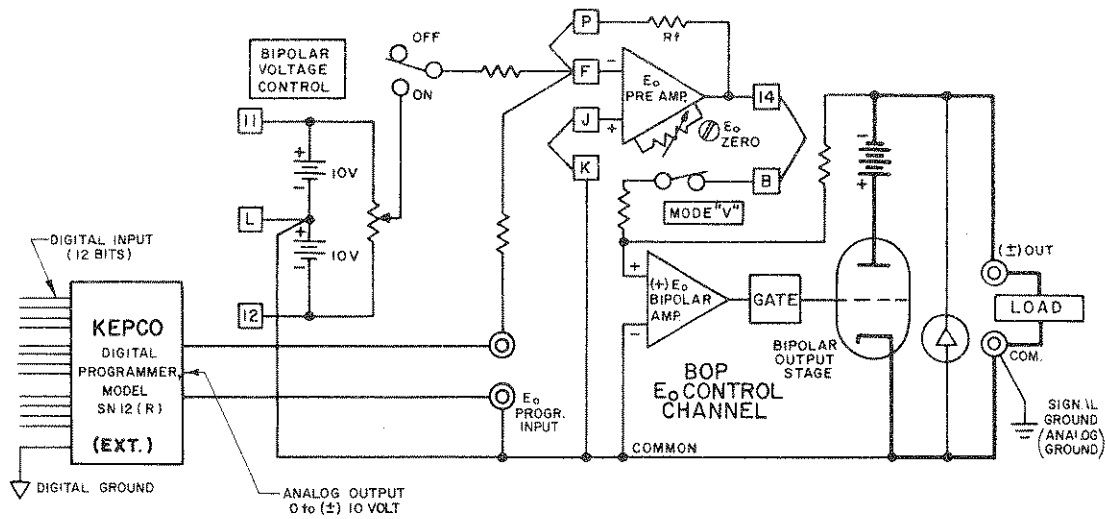

FIG. 3-6 DIGITAL CONTROL OF THE BOP D-C OUTPUT VOLTAGE
- 3-18 The connections between the SN-12R and the BOP are illustrated in FIG. 3-6. This programming system provides a resolution of 12-bits with a linearity of $(\pm) 0.01\%$. The digital and the power supply grounds are isolated (optical isolation) to 1000 volts. Calibration of the system is performed with the provided controls on the SN-12R Programmer